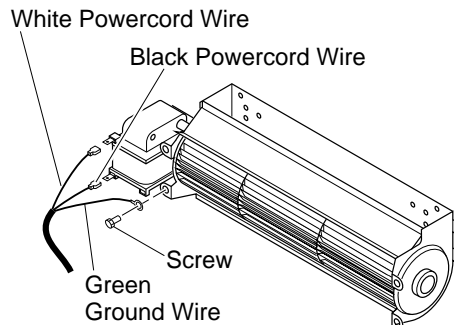

Figure 12 - Removing Wires from Blower
3. Disconnect power cord wires from blower motor (if connected) (see Figure 12).
4. Disconnect green ground wire from blower housing (if connected) by removing screw holding wire terminal (see Figure 12).
11. Attach the terminal end of the green power cord wire to the front tab of the blower housing using screw provided (see Figure 12).